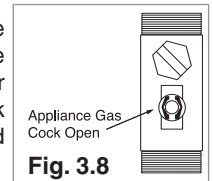

FIG. 3.8
4. Turn on the gas cock (fig. 3.8) and check the seals on the connections, including the one for the burner, making sure that the meter does not signal the passage of gas. Check the connections with a soap solution and eliminate any leaks.